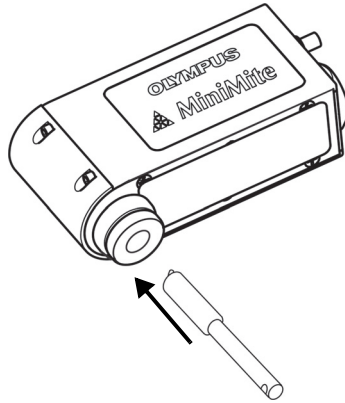

Figure 2-3 Inserting a LEMO probe
2. Align the halves of the LEMO connector and push the probe straight in (see Figure 2-3 on page 27). Do not force it.